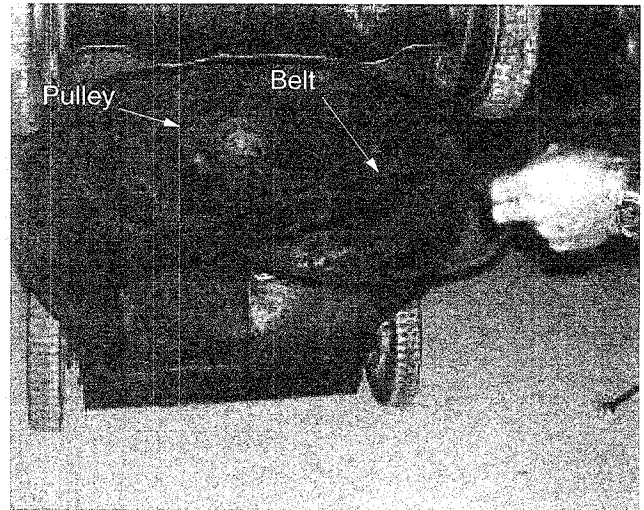

Figure 25
5. Remove the belt from the engine pulley and around the blade. See Figure 25.